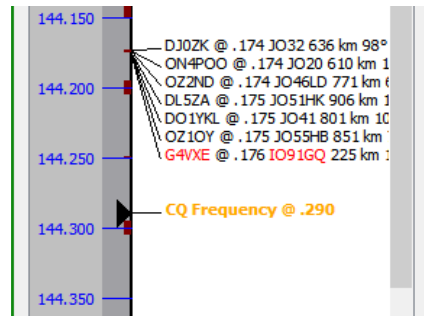

Figure 149 – Run frequency marker
- If operating in Run mode, the current Run frequency is marked on the display¹³⁷ as **‘CQ Frequency’**, with the fractional frequency appended (see Figure 149); the marker changes colour if the rig moves off the run frequency.